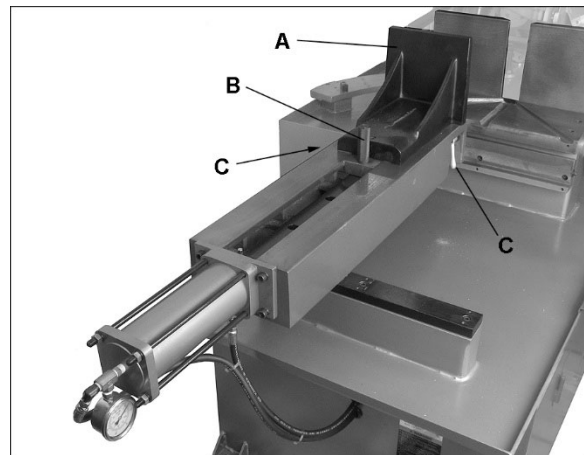

Figure 7-6: vise positioning
Refer to Figures 7-6 and 7-7.
To position floating jaw (A , Figure 7-6), pull out stop pin (B) and manually slide jaw into general position. Reinstall stop pin in appropriate hole. Use switch on control panel to move vise against workpiece.